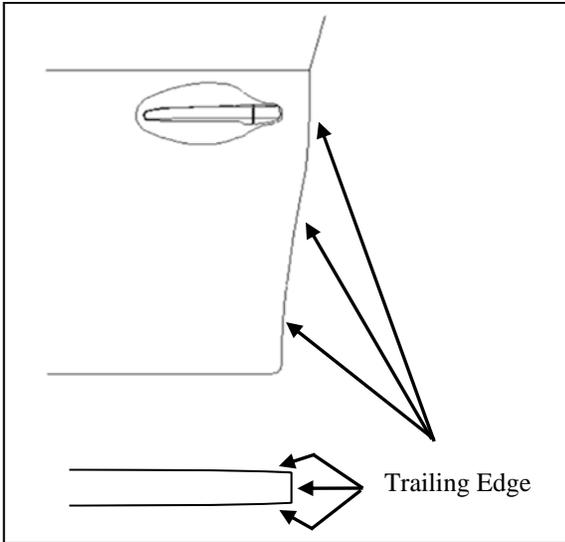

Fig. 2-1
(1) Spray 3~4 pumps of Simple Green (or VDC approved cleaner) onto lint free towel and pinch the wet towel between your thumb and forefinger while running along the length of the door edge to clean the inside and outside of the trailing edge of door. Make several passes to ensure the wax and oil has been removed. (Fig. 2-1)